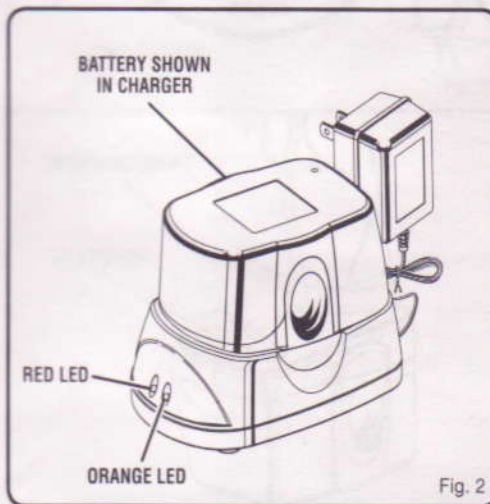

Fig. 2
- Place battery pack in charging stand. Align raised rib on battery pack with groove in charging stand. See Figure 2.